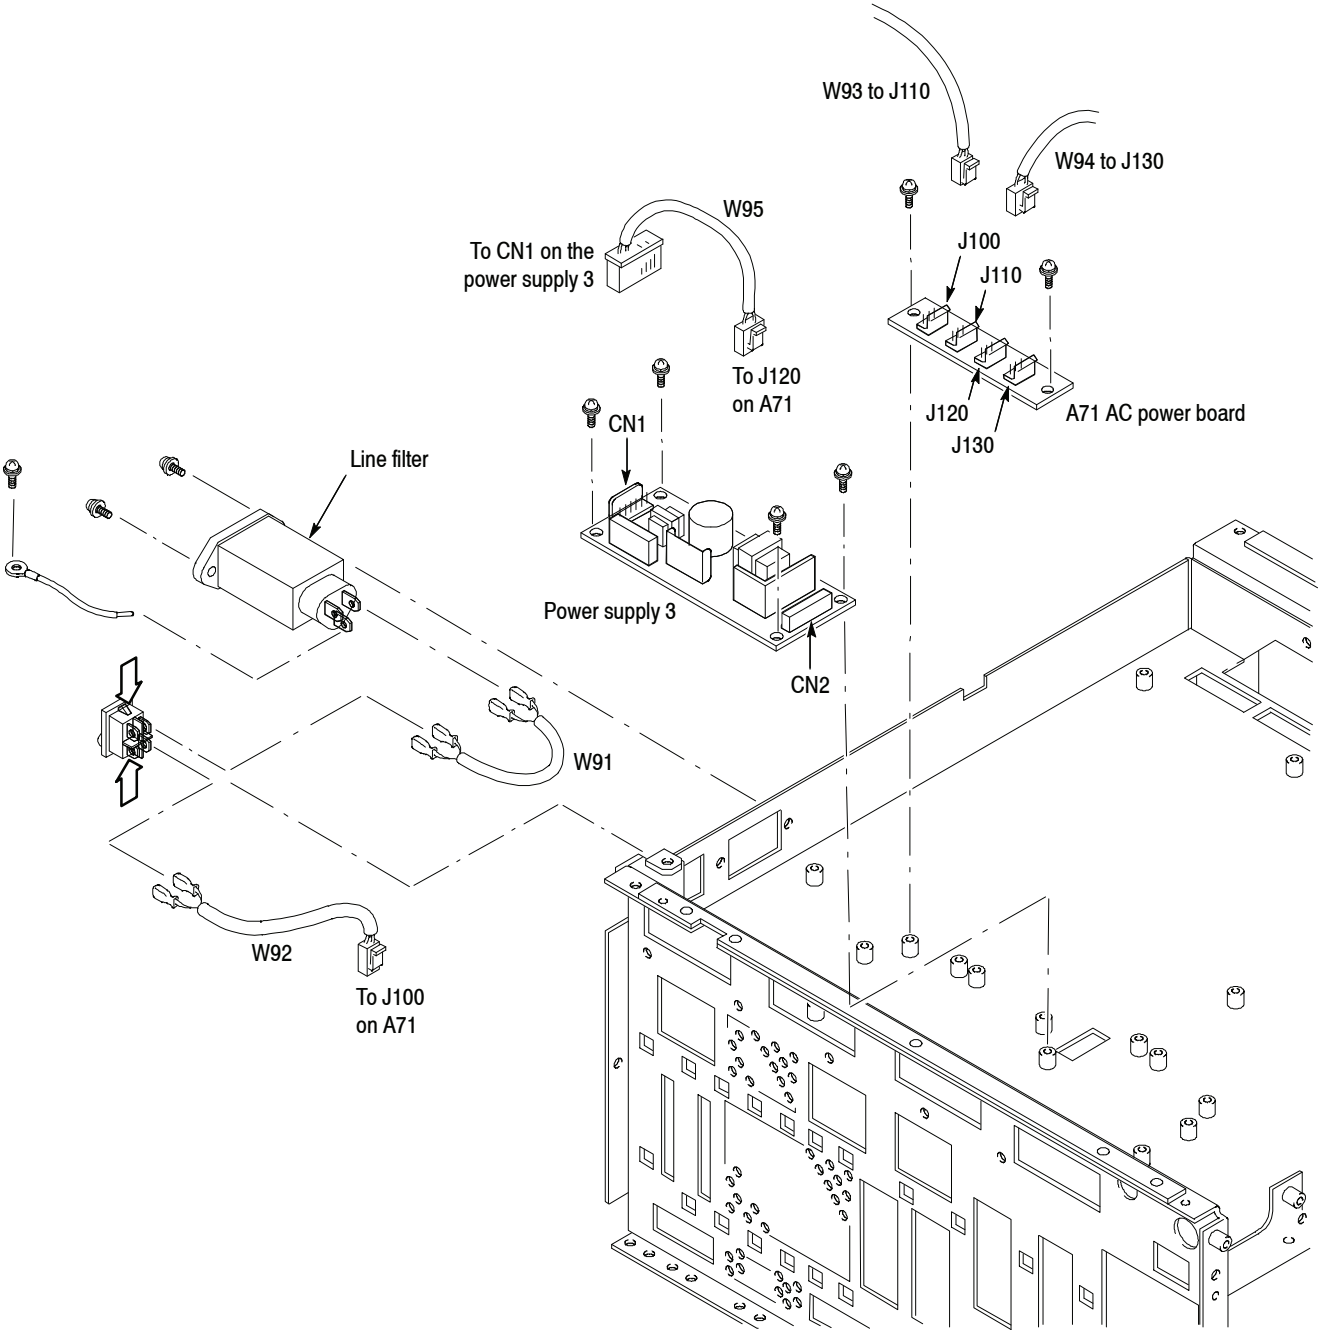

Figure 6-25: Power supply modules removal
See Figure 6-25 for the following steps 3 and 4. Also see Figure 6-38 on page 6-76 for cable interconnection.
3. *Remove the A71 AC power board:* See Figure 6-25. Also see Figure 6-38 on page 6-76 for cable interconnection.
3. *Remove the power supply 3:* See Figure 6-25. Also see Figure 6-38 page 6-76 for cable interconnection.
3. *Remove the line filter:* See Figure 6-25.
3. *Remove the principal power switch:* See Figure 6-25.